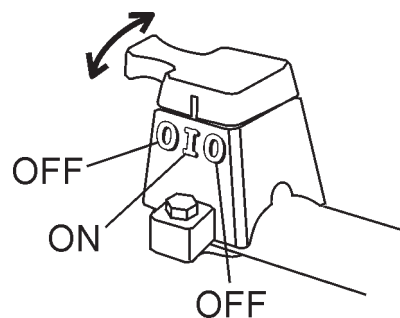

Figure 31. Engine Shutdown Switch (Handlebar)
2. Ensure the engine **Shutdown switch** on the handlebar and the engine **ON/OFF switch** on the engine are both in the **OFF** position to avoid accidental starting. (Figures 31 and 32)
The Engine Shutdown Switch located on the handlebar (Figure 31) serves both as an **Emergency Engine Shut-Off** and as the **primary Shutdown switch**. This allows the operator to shutdown the saw safely away from moving parts.
Toggle the **engine Shutdown switch** located on the handlebars (Figure 31) in **EITHER DIRECTION** to the "OFF" position.